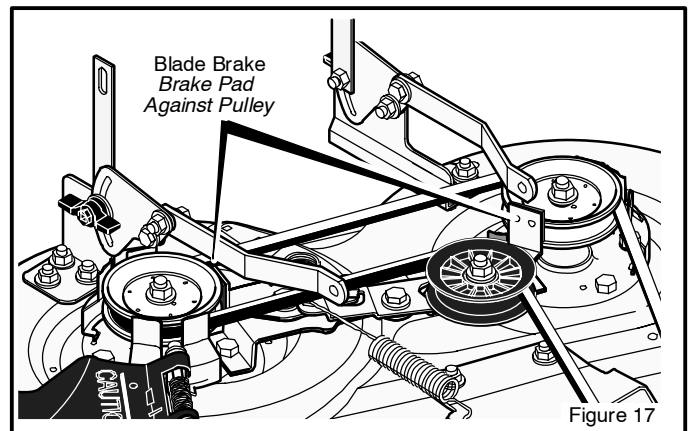

Figure 17
8. Move the **blade rotation control** to the **DISENGAGE position**. Stop the engine. Disconnect the wire from the spark plug. Check the operation of the **blade brake**. Rotate the pulleys with your hand. Make sure the **brake pads** are pressed tightly against the pulleys (Figure 17).